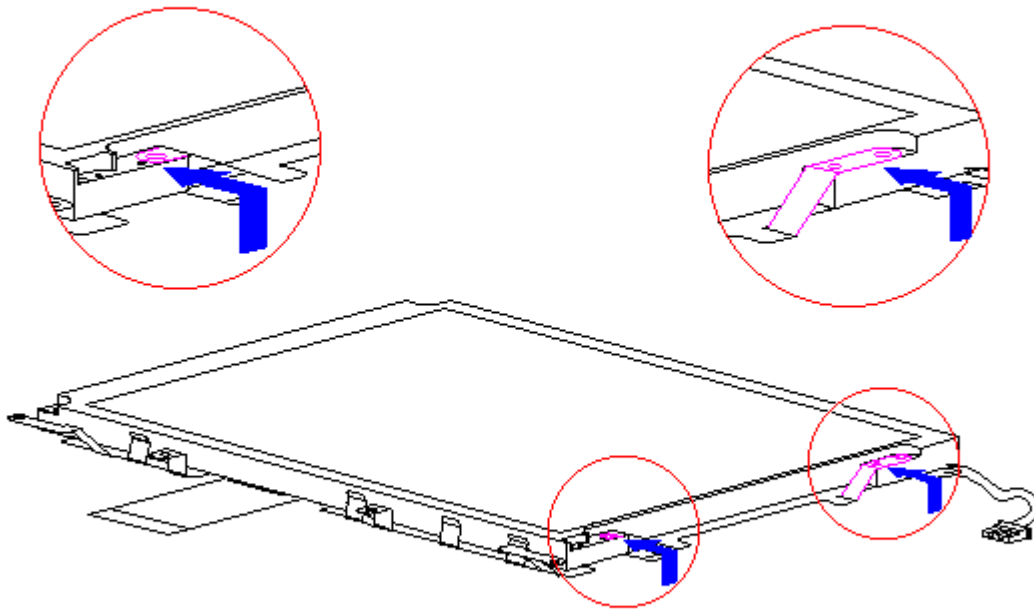

Figure 3-154. Positioning the Display Shield Tabs (Models 420 and 430)
5. Place the display shield tabs in the indentations on the sides of the CSTN (10.4 in) panel (Figure 3-154).